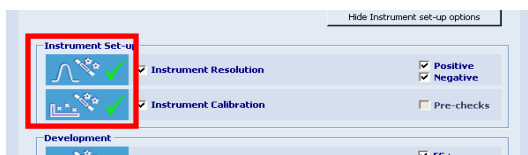

Figure 51 - Successful completion of Intellistart resolution and calibration.
10. Ensure that the procedure is completed successfully (signified by cross check marks appearing in the Instrument Set-up icons) (Figure 51).